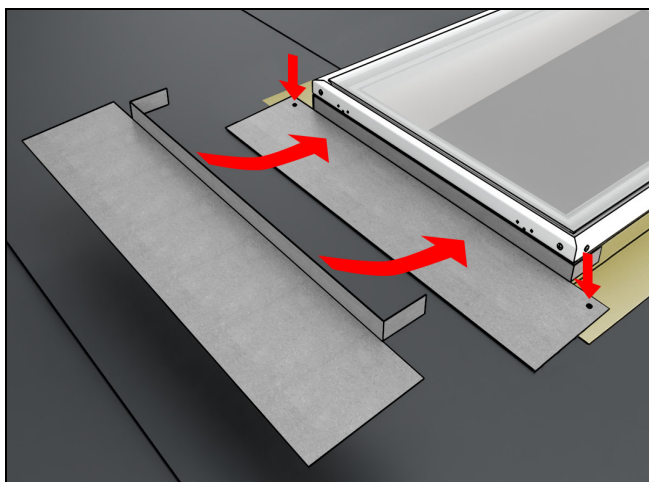

Figure 16
14. Place sill saddle centered on frame and bend over tabs. See Figure 16.